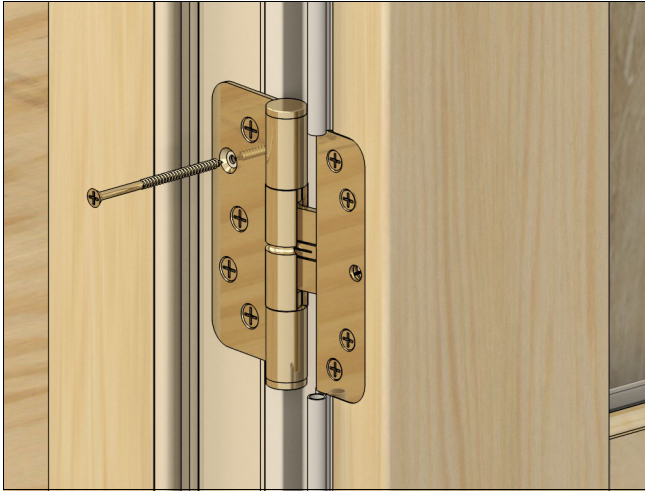

Figure 18
1. On all operating panels that hinge off of a jamb, install a provided #10 x 2-1/2" screw as shown in Figure 18. The 2-1/2" screw will always be put in the 2nd screw hole from the top. On IZ3 units, two #10 x 2-1/2" screws are needed in the center holes.